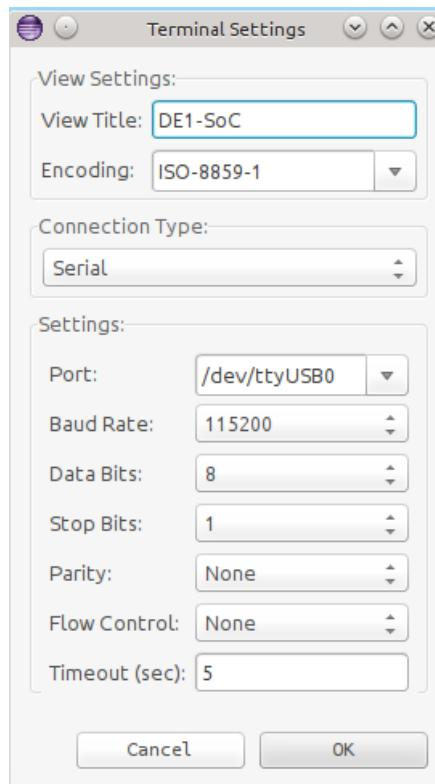

Figure 13-9. ARM DS-5 Serial Terminal Settings
71. Modify the serial terminal’s settings to match those shown in Figure 13-9, then press “OK” to start the connection.